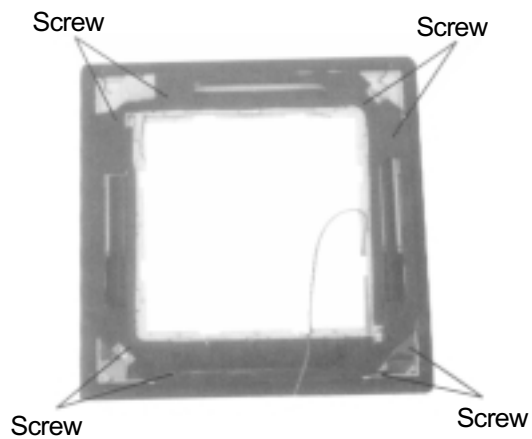

Figure 24
- ⑭ Disassemble the corner inner cover.
- Unscrew the screws as shown in figure 24.